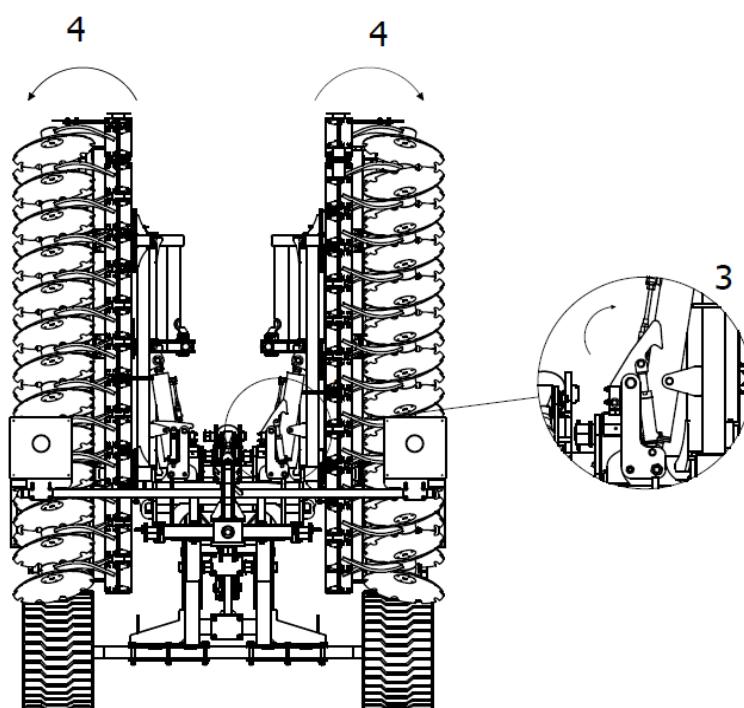

Figure 11 Machine opening sequence (3 - release the hook of the hydraulic wing lock mechanism 4 - open the wings of the machine)
3) Unlock hydraulic wing lock mechanism (fig. 11)